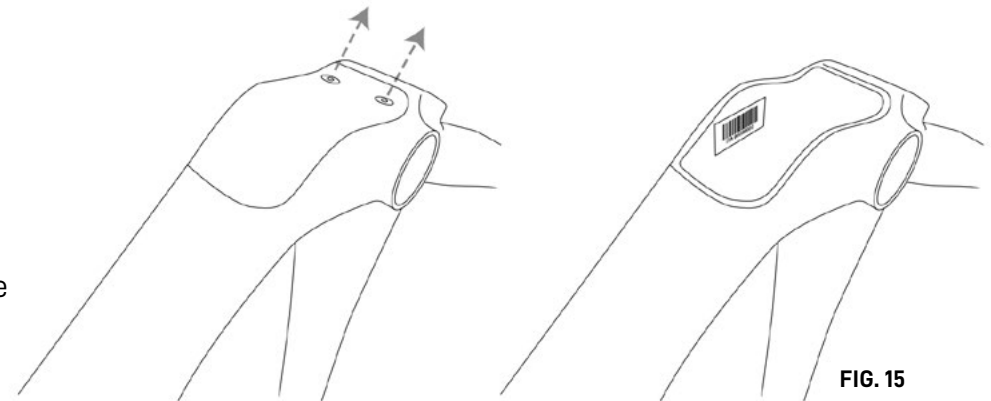

FIG. 15
- In order to make this guarantee effective, you must fill in the online form which can be accessed via QR CODE or by connecting directly to the website warranty.mmbike.it no later than 15 days from the date of purchase of the bicycle. You will need the serial number and photo proof of purchase from the authorized reseller. The serial number is placed inside the frame in the bottom bracket area, it is necessary to remove the battery cover by unscrewing your fixing screws (Fig. 15).